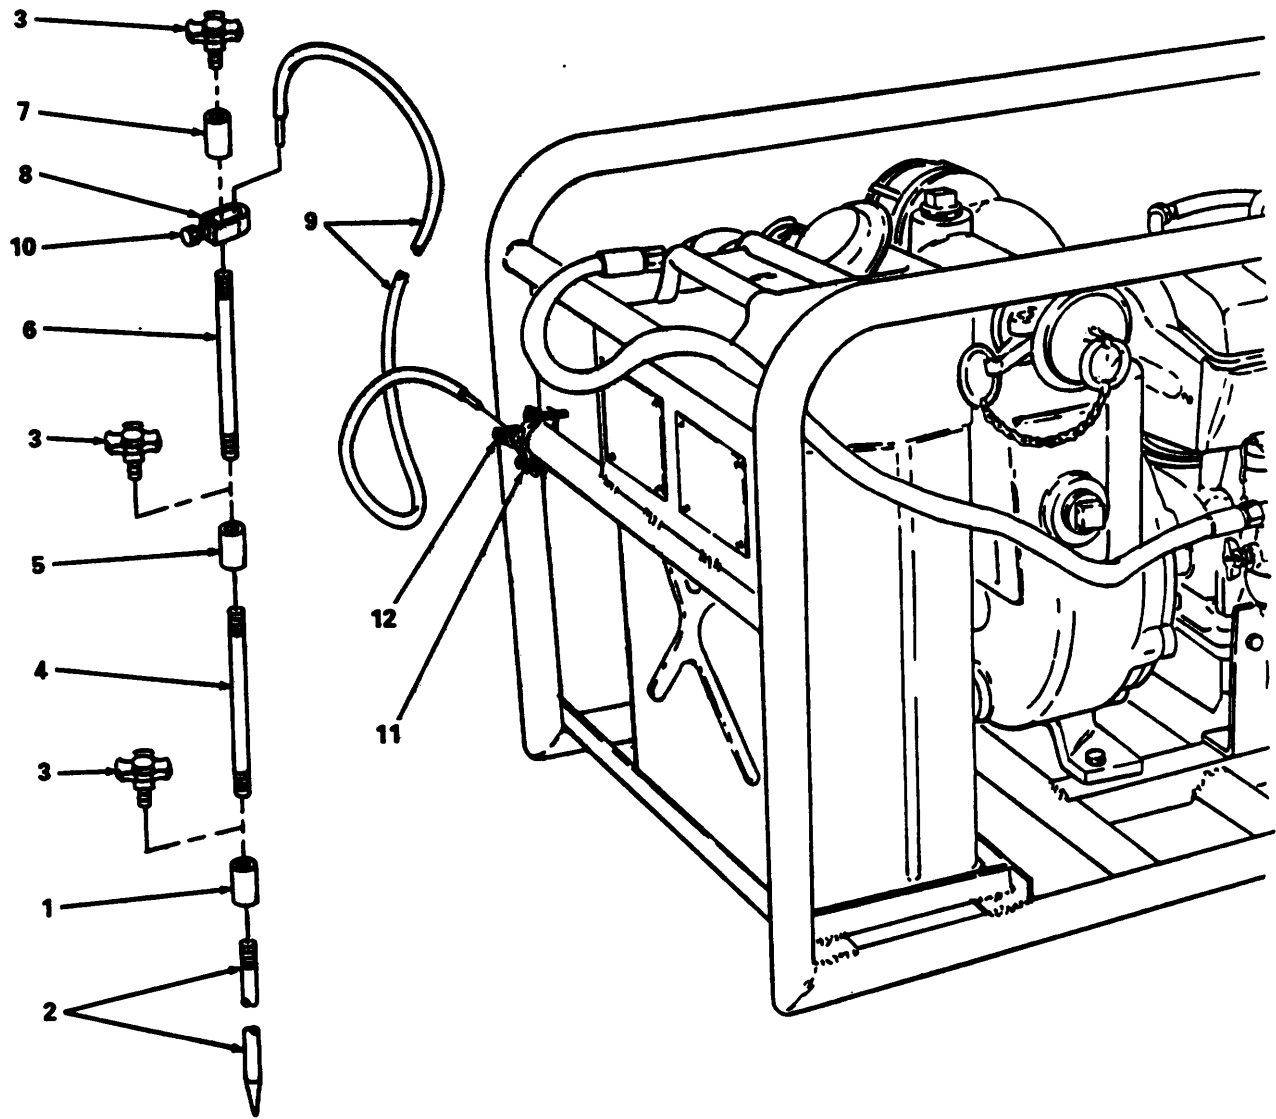

Figure 2-2. Grounding Procedures
- (2) Connect the collapsible hose to the discharge side of the pump.
d. Grounding. Ground the pump assembly to a ground rod at least 96 in. (243.84 cm). Refer to figure 2-2 and proceed as follows.
- (1) Install coupling (1) on ground rod (2) and install driving stud (3). Ensure driving stud (3) seats against ground rod (2).
- (2) Drive rod (2) into ground until coupling (1) is just above surface of ground.
- (3) Remove driving stud (3) and install ground rod (4) in coupling (1) making sure ground rods (2) and (4) seat against each other.
- (4) Install coupling (5) on grounding rod (4).
- (5) Install driving stud (3) in coupling (5) and ensure driving stud (3) seats against grounding rod (4).
- (6) Drive ground rod (4) into ground until coupling (5) is just above surface.